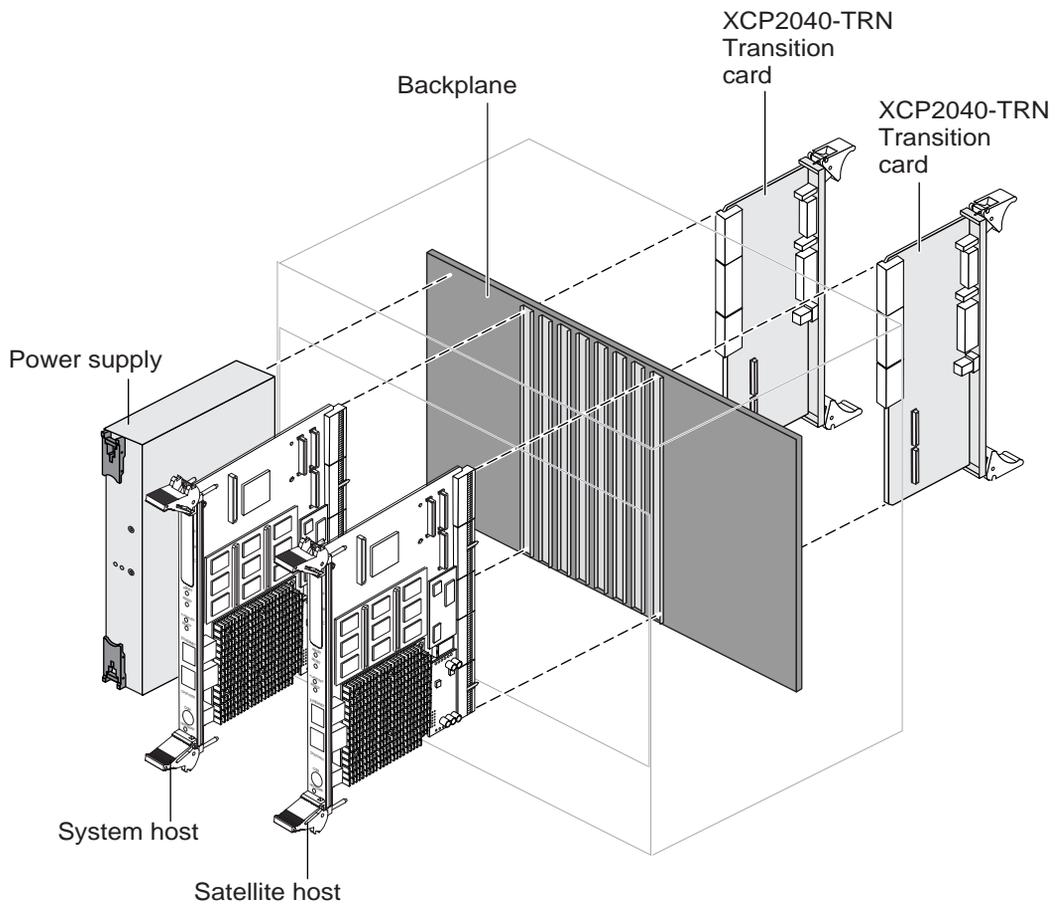
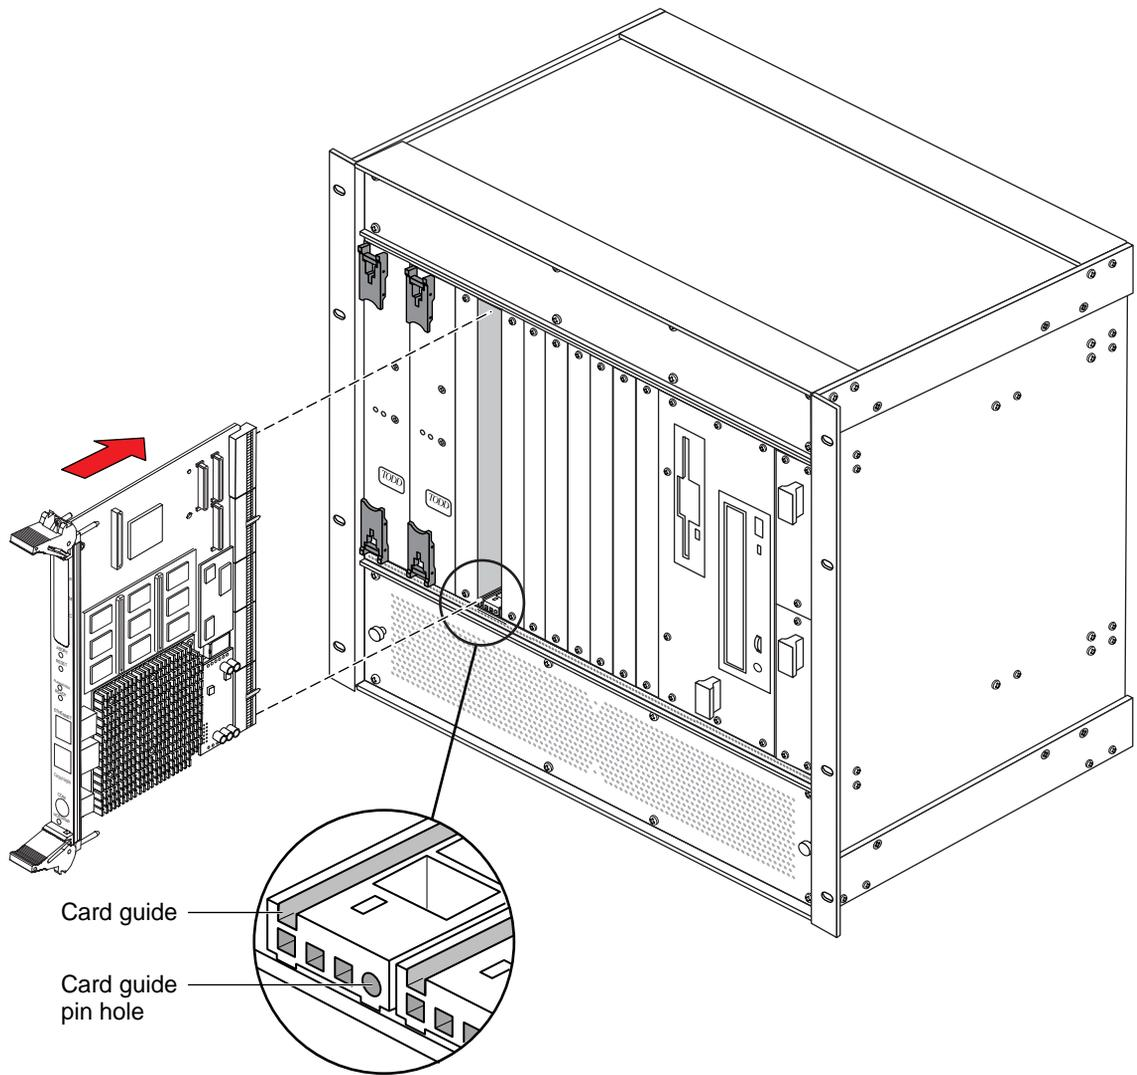

FIGURE 2-8 Netra CP2140 Board System Interface: One System Controller Board, One Satellite Board, Two Transition Cards
FIGURE 2-9 Netra CP2140 Board Installation (Close-up View)
A number of CompactPCI chassis enclosures come with an internal power supply and fan. FIGURE 2-8 shows two Netra CP2140 boards (system host and satellite host) being installed in a CompactPCI chassis.
3. Slide the Netra CP2140 board into the appropriate slot on the corresponding top and bottom mounting rails and towards the backplane while gently keeping the board handles pushed inward (see FIGURE 2-8 and FIGURE 2-9).